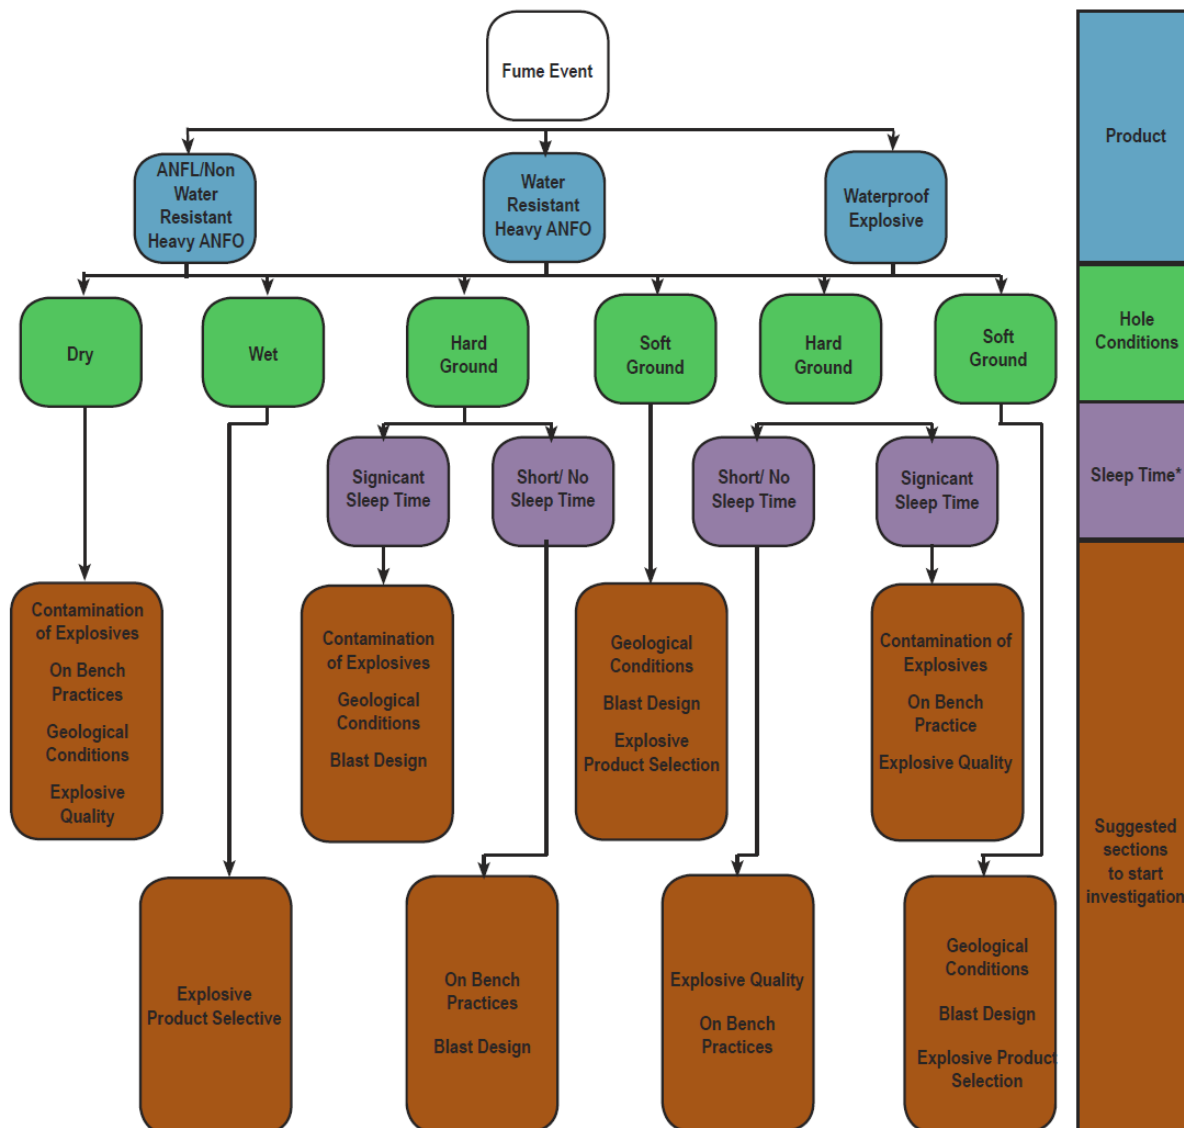

Figure 1 Fault Tree (Source: AEISG, 2011)
- Should an excessive blast fume (level 3 or higher that is not localised) be generated from a blast, a fault tree (refer to Figure 1 below) will be used during the ICAM incident investigation to identify contributing factors that caused the excessive blast fume.